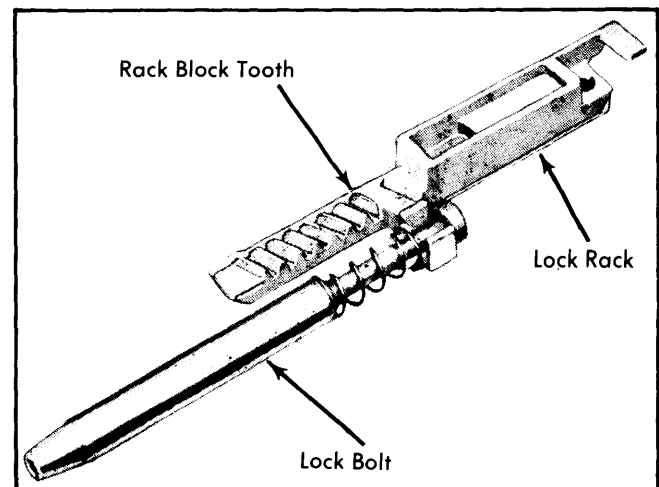
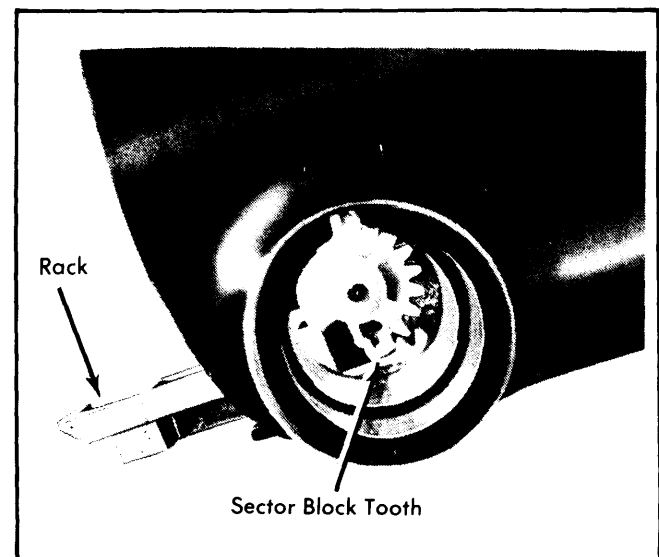
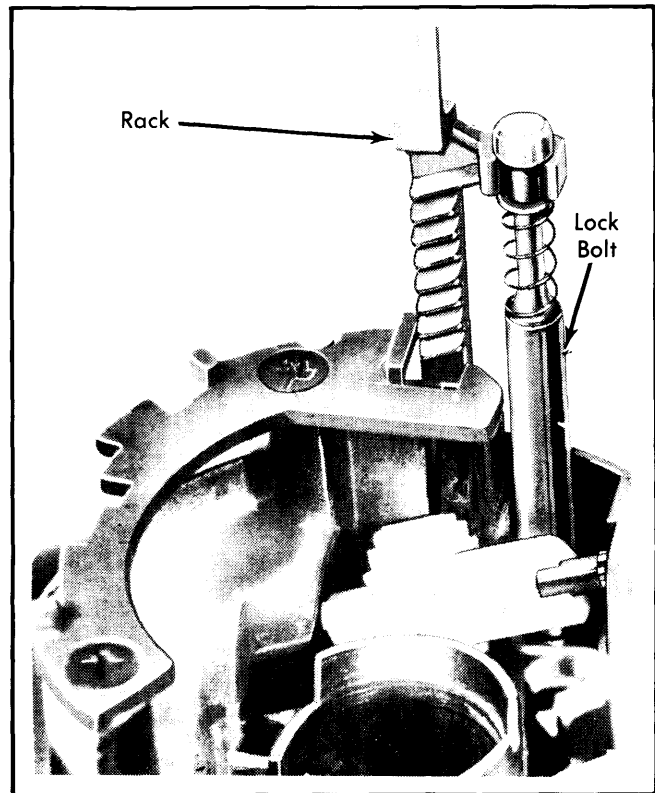

Fig. 4 Assembling Lock Bolt and Lock Rack
Fig. 5 Installing Lock Bolt and Lock Rack
Fig. 9 Installing Lock Rack and Bolt into Shift Bowl
2) Install rack preload spring. Make sure bowed side of preload spring is against lock rack. Assemble lock rack and lock bolt as shown in illustration (see Fig. 4).
3) Install assembled lock bolt and lock rack in housing. Make sure block tooth of lock rack is mated with block tooth of sector as shown in illustration (see Fig. 5).
6) Assemble lock bolt and lock rack (see Fig. 4). Install lock bolt and lock rack in column (see Fig. 9). Make sure block tooth of lock rack engages block tooth of sector (see Fig. 5).